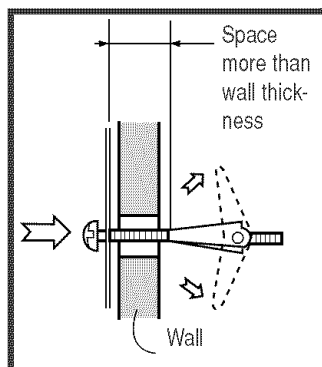

Figure 18
4. Position the Mounting Plate with the Toggle Bolts attached at the wall location and insert Toggle Nuts and Bolts through the holes in the wall with the Toggle Nuts closed. Figure 18. Use Wood Screws ① to attach the Mounting Plate to studs.